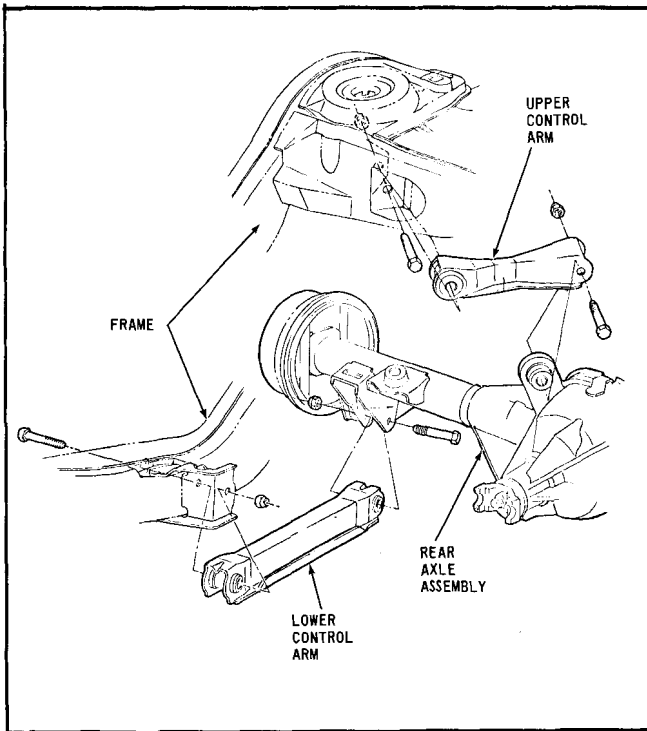

Fig. 4-29 Installation of Control Arms (Coil Spring Suspension)
3. Remove pivot bolt at axle housing and lift upper control arm to clear boss on axle housing (Fig. 4-29).
3. Remove pivot bolt at axle housing bracket (Fig. 4-29).